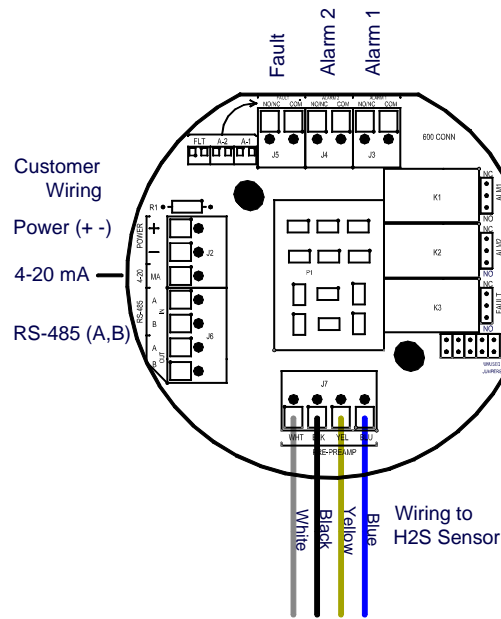
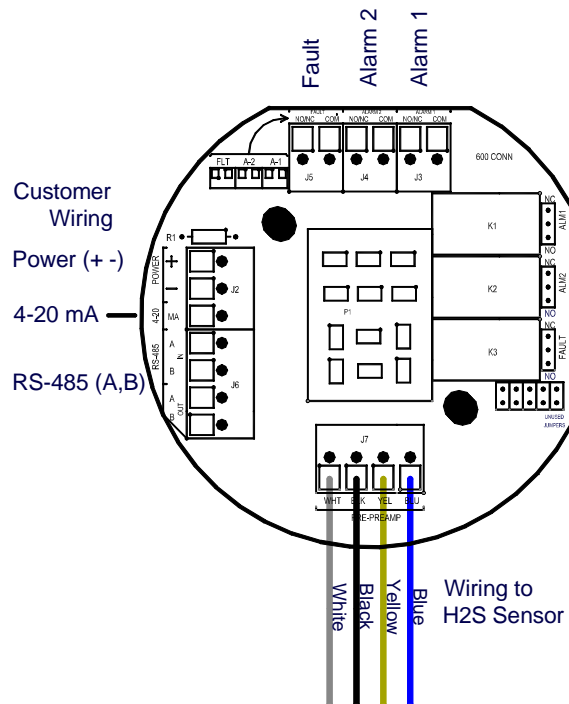

Figure 8 Typical Installation
Figure 9 Sensor Connector PCB
NOTE: In all installations the gas sensor should point straight down (refer to Figure 8). Improper sensor orientation may result in false readings and permanent sensor damage.
Proper electrical installation of the gas sensor is critical for conformance to Electrical Codes and to avoid damage due to water leakage. Refer to Figure 8 and Figure 9 for proper electrical installation.
NOTE: If a conduit run exits the secondary port, repeat the installation technique shown in Figure 8.
In Figure 8, the drain allows H₂O condensation inside the conduit run to safely drain away from the sensor assembly. The electrical seal fitting is required to meet the National Electrical Code per NEC Article 500-3d (or Canadian Electrical Code Handbook Part 1 Section 18-154). Requirements for locations of electrical seals are covered under NEC Article 501-5. Electrical seals also act as a secondary seal to prevent water from entering the wiring terminal enclosure. However, they are not designed to provide an absolute watertight seal, especially when used in the vertical orientation.
- b) Observing correct polarity, terminate the field wiring (DC+, DC-, MA, A, and B) to the sensor assembly wiring in accordance with the detail shown in Figure 9.